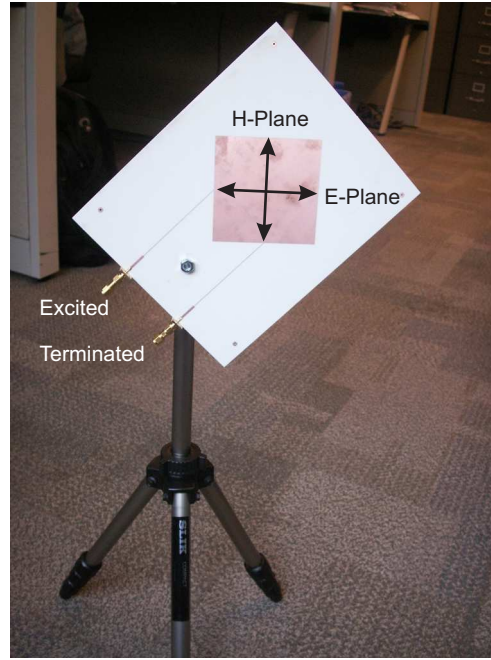

Figure 4: The E-Plane and H-Plane orientation of a circularly polarized patch antenna when one of the ports is excited while the other is terminated.
3. Attach the patch onto the tripod and adjust the arms of the reference antenna such that it is aligned to the E-plane of the patch. Refer to Figure 4.